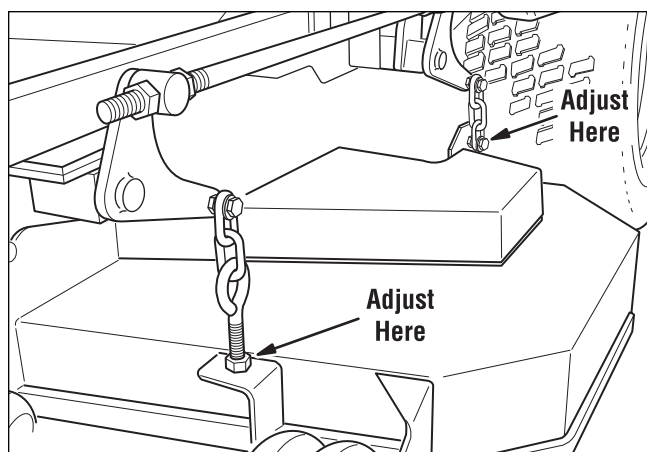

Figure 42. Hanger Chain Adjustment
3. Adjust the front eyebolts until the chains are tight and the deck is still resting on the 2 X 4's. Tighten jam nuts. See Figure 42.
4. Loosen the nuts and allow the rear of the deck to rest on the 2 X 4's. Slide the chains in the slots until the chains are tight and tighten the nuts. See Figure 42.